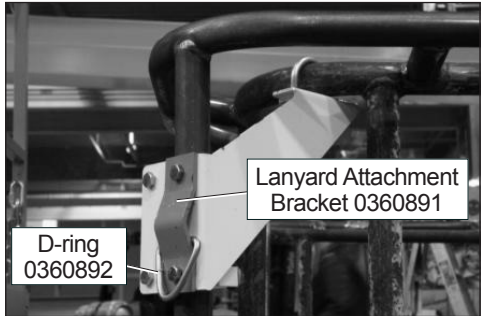

Figure 2 – D-Ring Bracket Mounting
2. Slide a tie-down D-ring (0360892) over a lanyard attachment bracket (0360891) as shown in Figure 2.